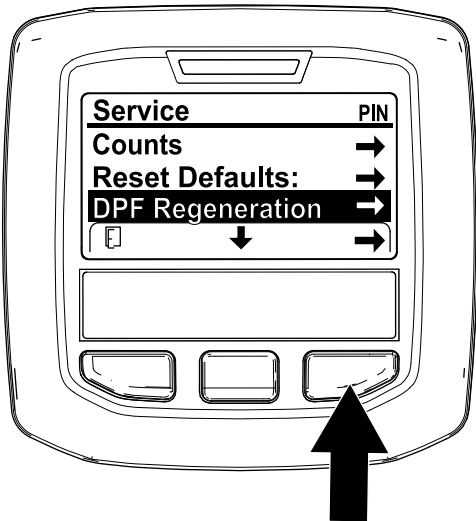

Figure 39
- 1. Access the Service menu, press the center button to scroll down to the DPF REGENERATION option (Figure 39).
- 2. Press the right button to select the DPF Regeneration entry (Figure 39).